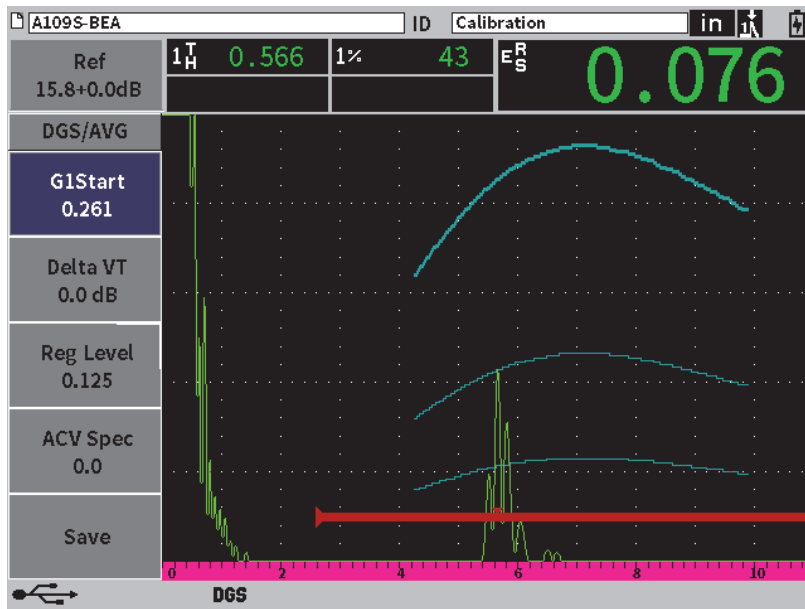

Figure 11-21 DGS/AVG curves on the screen
After capturing the reference reflector, the EPOCH 6LT automatically calculates the DGS/AVG curve(s) and displays them at the correct registration level amplitude on the screen (see Figure 11-21 on page 177).
1. On the DGS/AVG submenu, press the Tab key to select **Delta VT** (see Figure 11-21 on page 177).